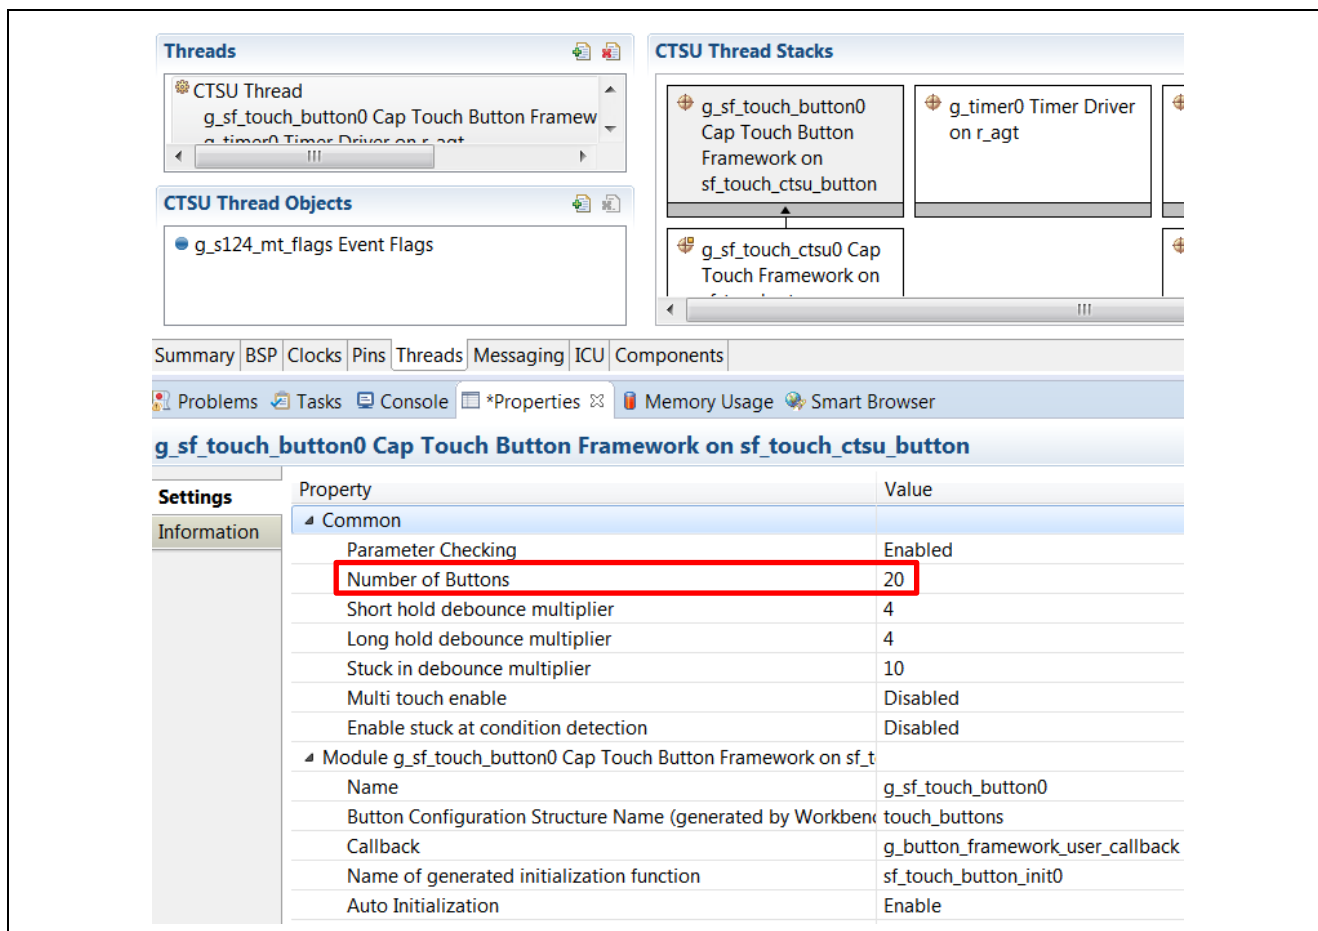
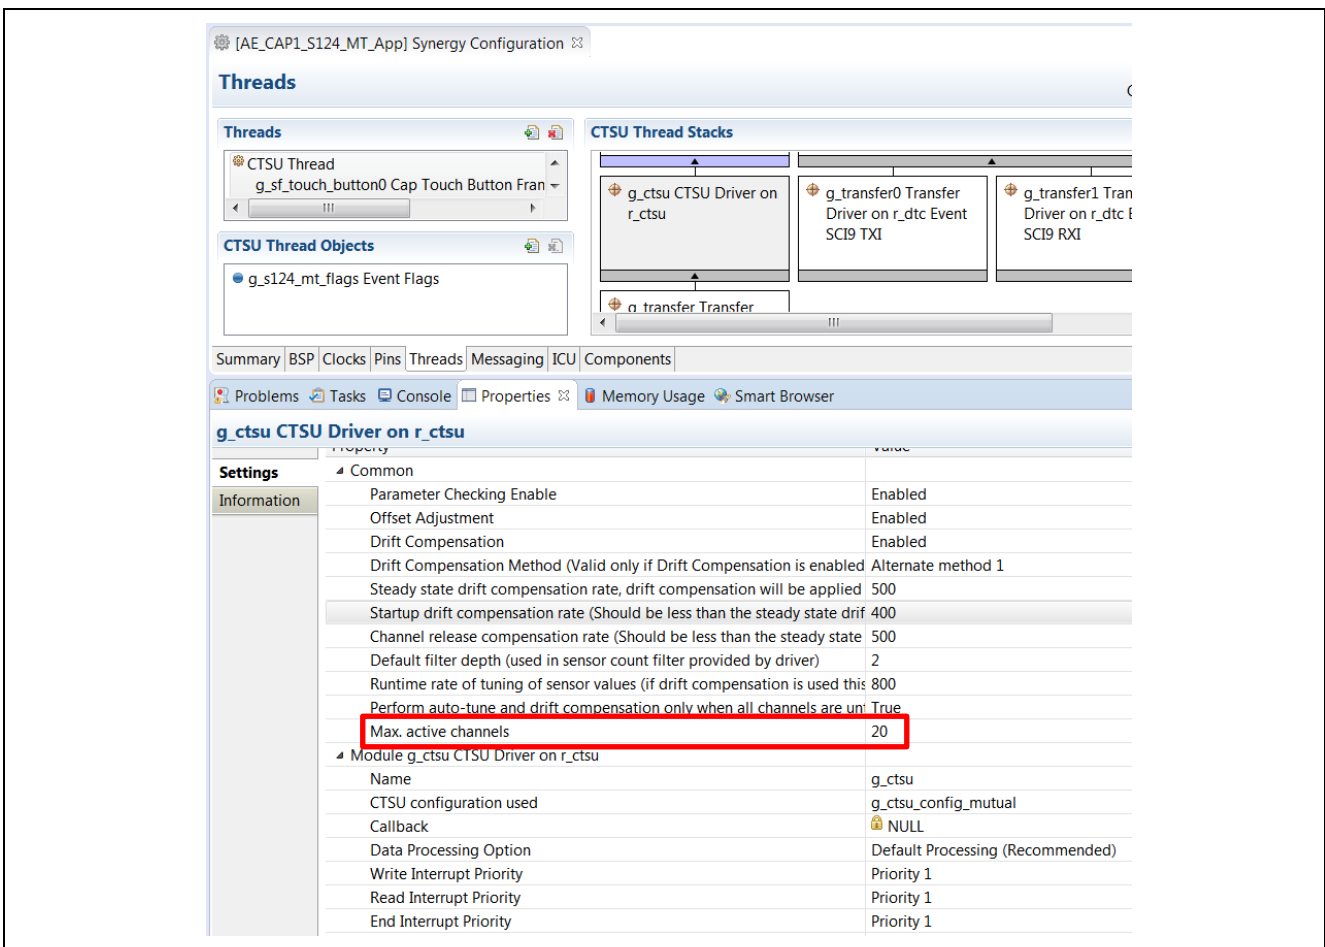

Figure 7. Capacitive Touch Button Framework Settings for S124 in the Mutual-Capacitive Application
Figure 9. CTSU HAL Driver Settings for S124 in Mutual-capacitive Application
Figure 7 shows some common parameter settings for the Capacitive Touch Button Framework used in the S124 mutual capacitive software projects.
Figure 9 shows some common parameter settings for the CTSU HAL driver in S124 software projects.
- Figure 9 shows the property, **Max. active channels**, matches the **Number of Buttons** in Figure 7. See the *SSP User's Manual* to understand various property settings.